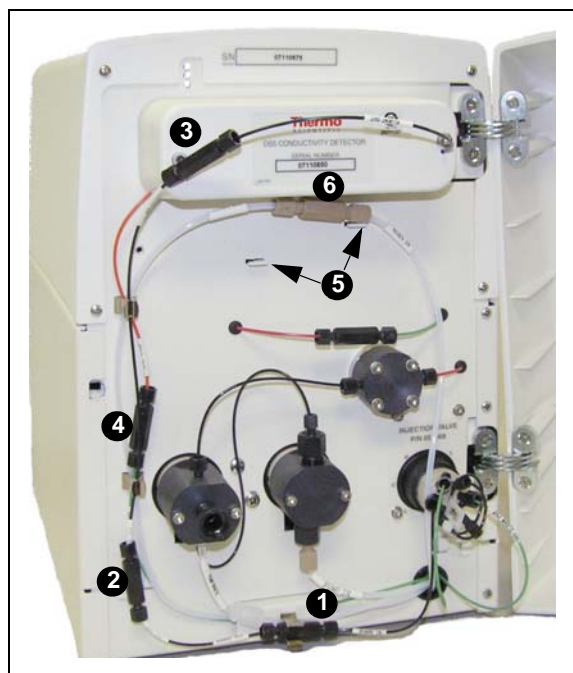

Figure 31. Dionex ICS-900 component panel
1. Disconnect the line labeled **GUARD IN** from the union connecting it to **GUARD OUT** (see Figure 31, item ①). The other end of **GUARD IN** is connected to port C on the injection valve.
5. Disconnect **COL IN** from the union connecting it to **COL OUT** (see Figure 31, item **2**).
3. Disconnect **ELUENT IN** from the union connecting it to **ELUENT OUT** (see Figure 31, item **3**).
2. Remove the union connecting the green and orange lines labeled **CELL OUT** (see Figure 31, item ④) and connect the backpressure coils.
1. Install the hydrated suppressor onto the brackets located below the conductivity cell (see Figure 31, item ⑤).
2. Remove the union connecting **REGEN IN** and **REGEN OUT** (see Figure 31, item ⑥) and connect these two lines to the corresponding ports on the suppressor.